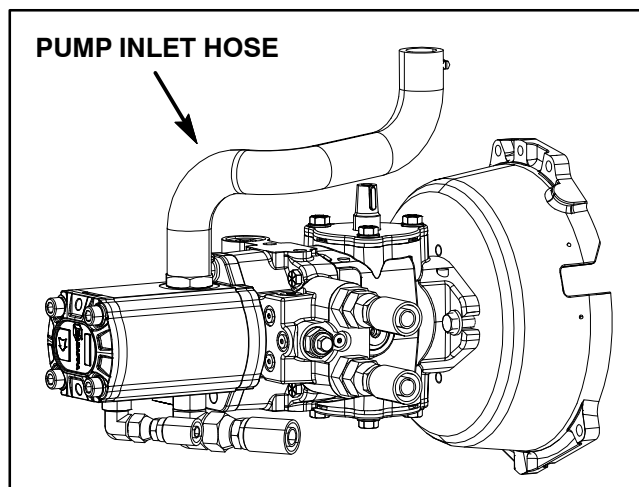

Figure 31
2. Clean area around piston pump and pump inlet hose (Fig. 31). Clamp pump inlet hose. Remove hose from piston pump, release clamp and drain reservoir into a suitable container. Drain hydraulic system while making sure lift cylinders, hydraulic hoses, hydraulic tubes and all other components are drained from low points while the system is warm.